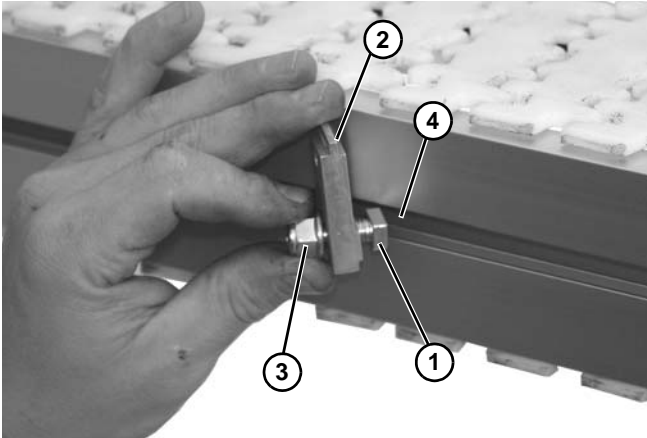

Figure 18
1. Install stud (Figure 18, item 1) onto retaining clip (Figure 18, item 2) with nut (Figure 18, item 3).
2. Install stud (Figure 18, item 1) into side rail channel (Figure 18, item 4). The end clips should be no greater than 12" from end of the conveyor.